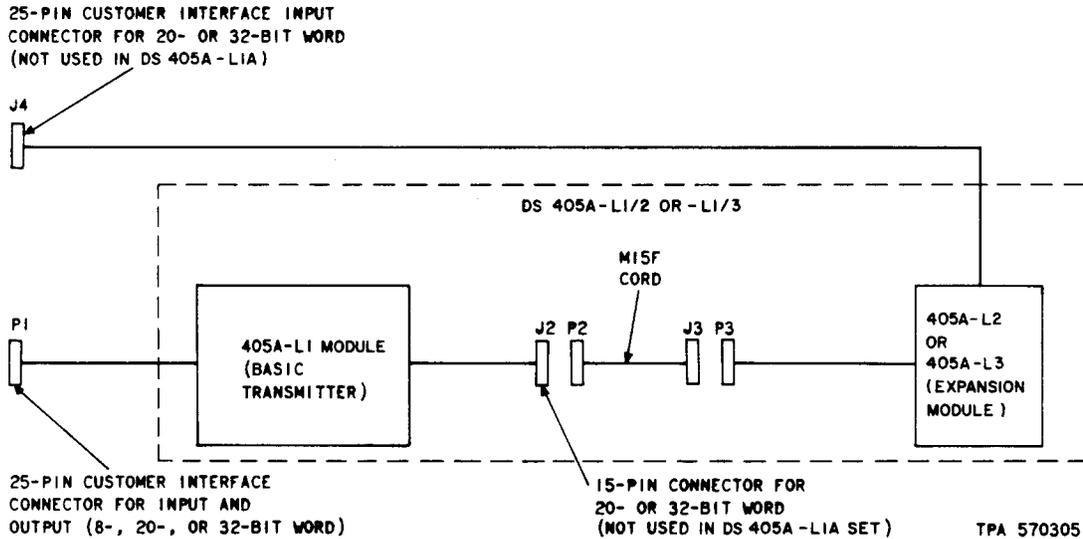

Fig. 2—Data Set 405A-Type—Interconnection Diagram
**3.02** For a DS 405A transmitter installation using an 8-bit word, refer to Fig. 2 and Table D for lead designations.
**3.03** For a DS 405A transmitter installation using a 20-bit word, refer to Fig. 2 and Tables D, E, and G for lead designations. Tables D and E list all the customer interface leads. The leads listed in Table G carry intermodule signals which are internal to the data set and are not available to the customer.
**3.04** For a DS 405A transmitter installation using a 32-bit word, refer to Fig. 2 and Tables D, F and G for lead designations. Tables D and F list all the customer interface leads. The leads listed in Table G carry intermodule signals which are internal to the data set and are not available to the customer.